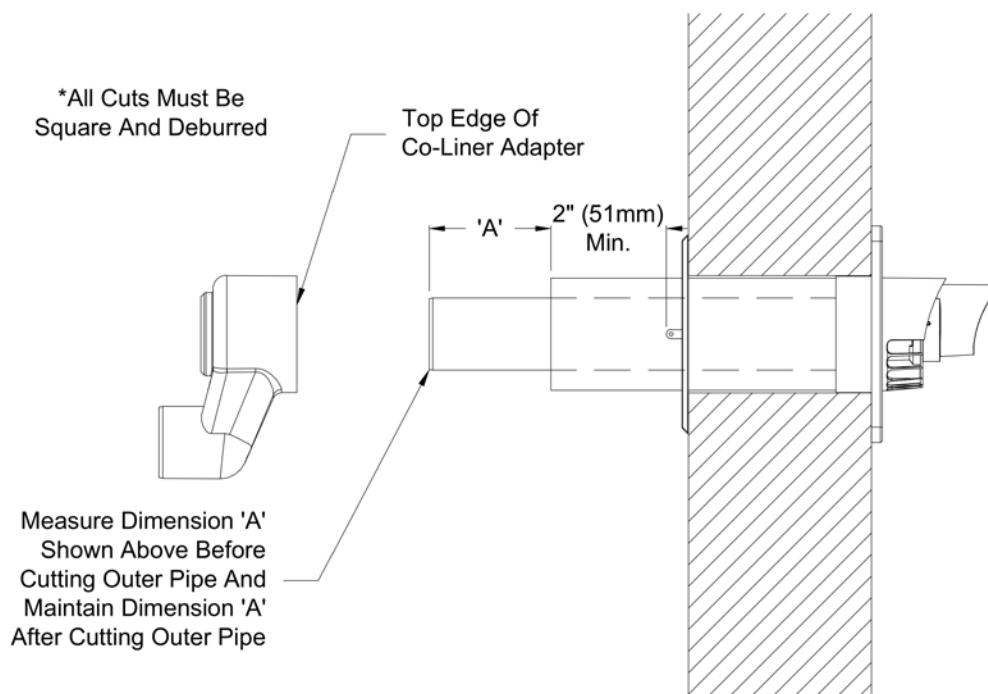

Figure 7.37: Cutting DuraVent PolyPro Horizontal Concentric Vent Terminal
- If desired, the terminal can be shortened. Mark the desired location of the cut on the outer pipe no closer than 2" from the edge of the tab on the interior wall plate. Prior to cutting outer pipe measure dimension 'A' of the inner pipe as shown in Figure 7.37 and maintain this dimension after cutting the outer pipe. All cuts must be square and de-burred.